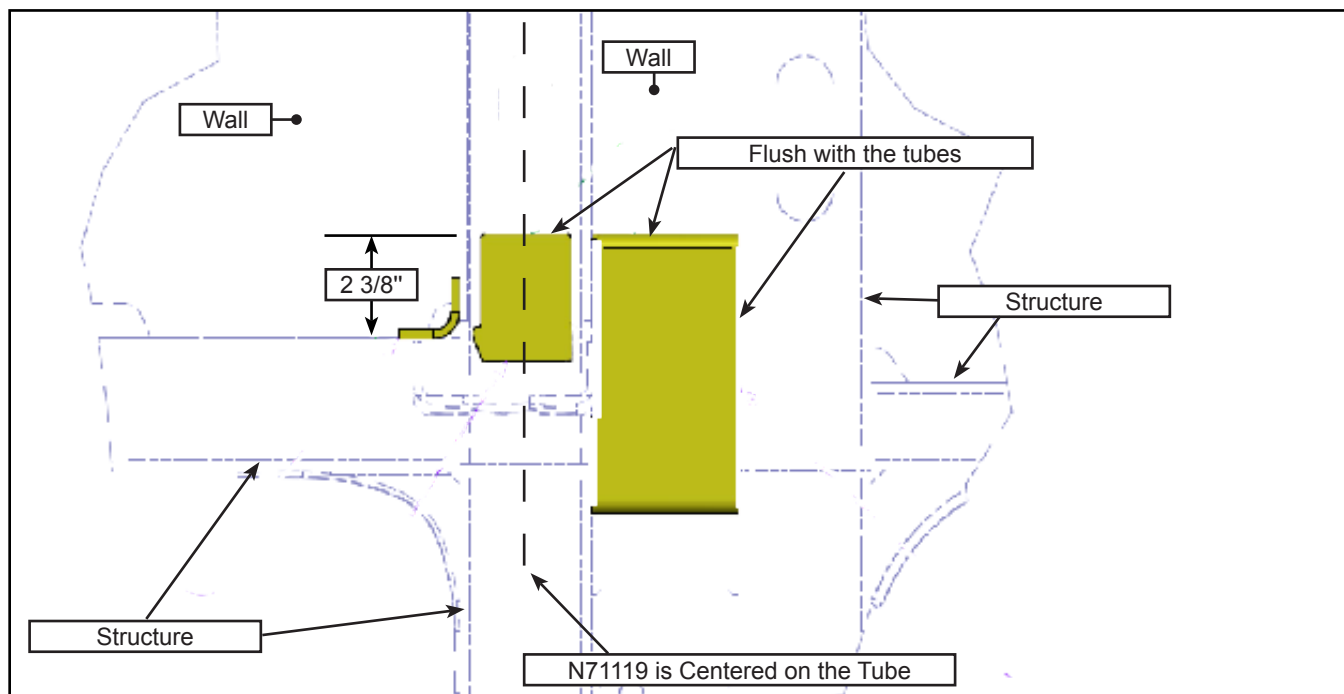

Figure 12 - Plates position
- 1.22. Verify the plates position prior to welding. See Figure 12. It may be required to grind or modify the parts.